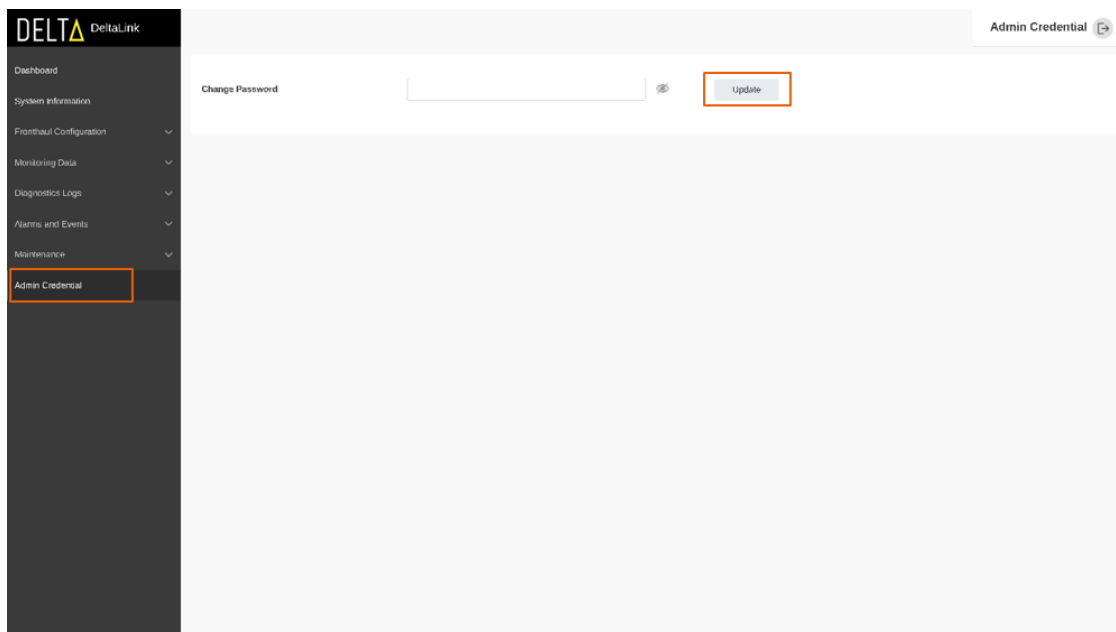

Figure 58 Admin Credential
- Enter the new password and select "Update" as shown in the Figure 58 below.